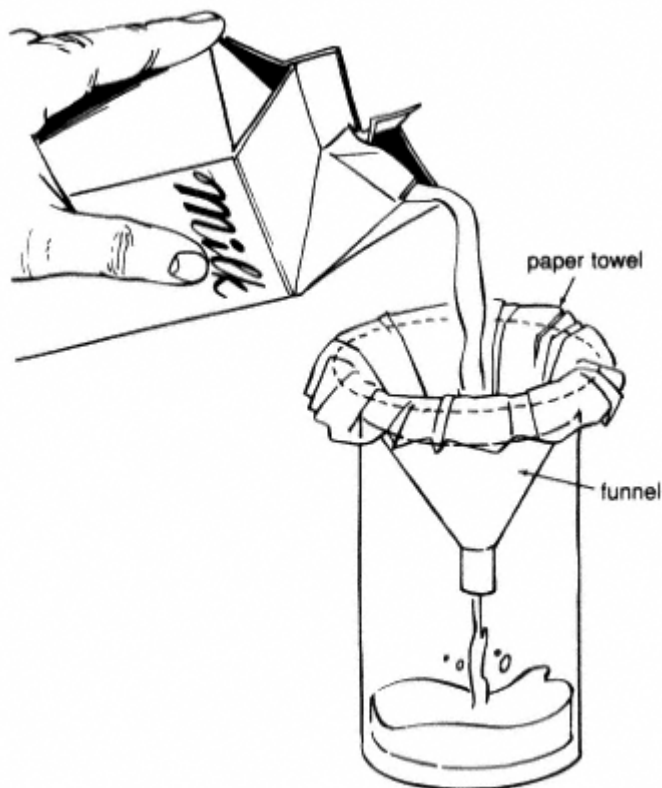

Figure 14.2
1. Can micelles in a liquid colloidal mixture be separated from the liquid by filtration? Homogenized milk is an example of a colloidal dispersion of solids (fats, proteins, and lactose) in a liquid (water). Stand a funnel in a drinking glass. Fold a paper towel in half twice. Fit the closed point inside the funnel and pull one layer of the paper against the top of the funnel (see Figure 14.2). Pour about 1 cup (250 ml) of